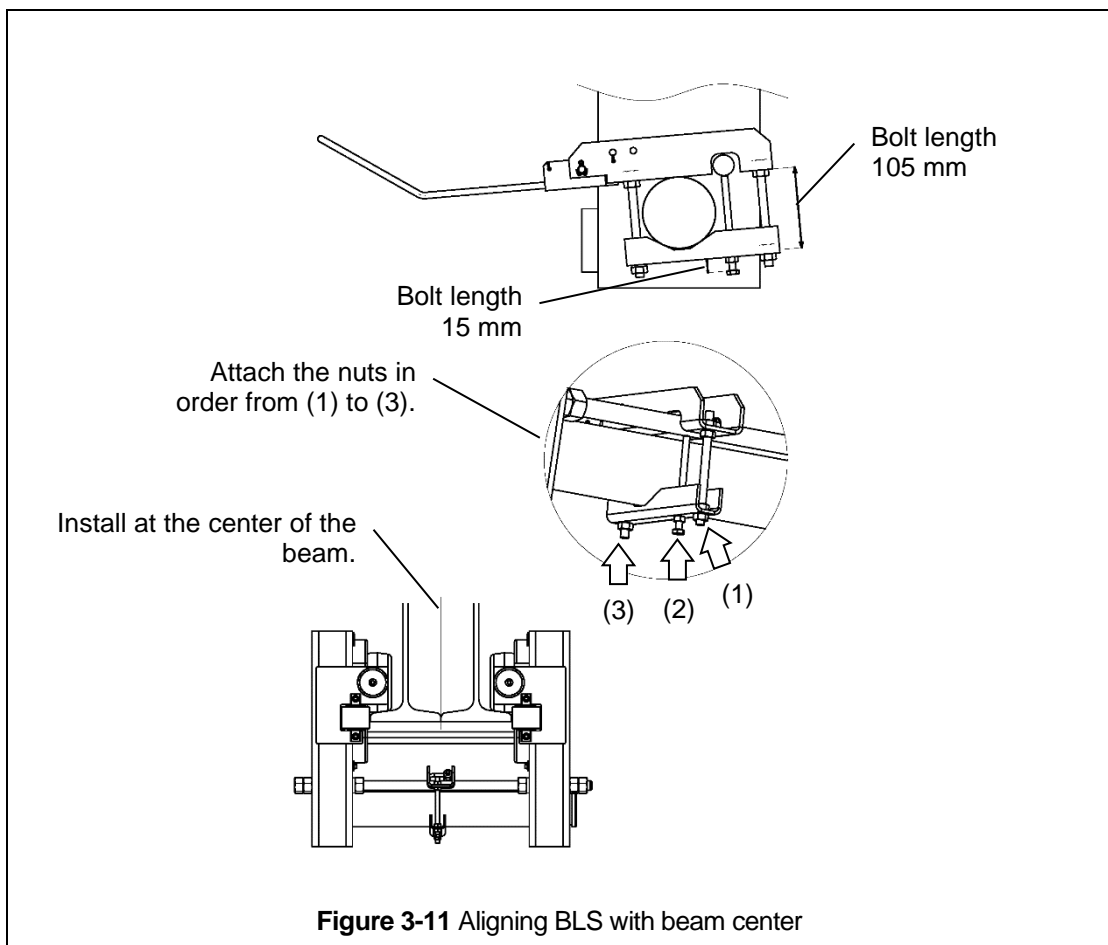

Figure 3-11 Aligning BLS with beam center
- 3) Tighten the two nuts and affix the height of the BLS so that the length of bolt (1) is 105 mm.
- 4) At a location where the length of bolt (2) extends 15 mm, tighten the nut and affix the length of the bolt. (Refer to **Figure 3-11**.)
- 5) Lastly, firmly tighten nut (3) and affix the position of the BLS.